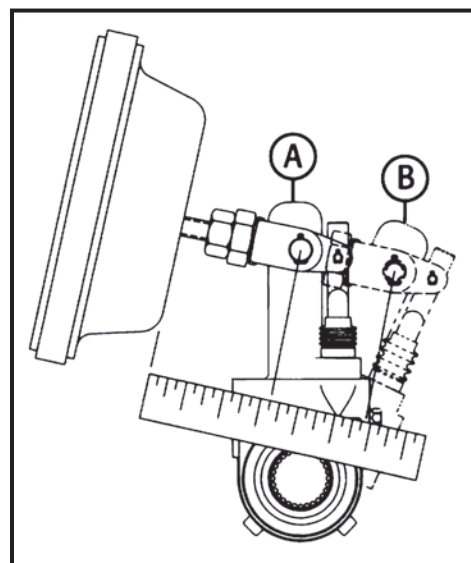

Figure 3 – Measuring Maximum Stroke
Using a ruler, measure the distance from the face of the air chamber to the center of the large pin in the clevis (A). (see Figure 3)
Make an 90-psi brake application and allow the air chamber to travel its maximum stroke. Measure the distance between the face of the air chamber and the center of the large clevis pin (B) (see Figure 3). The difference between the (A) measurement and the (B) measurement is the push rod stroke. Check the charts located on the next page for the proper maximum stroke after adjustment of the brakes.